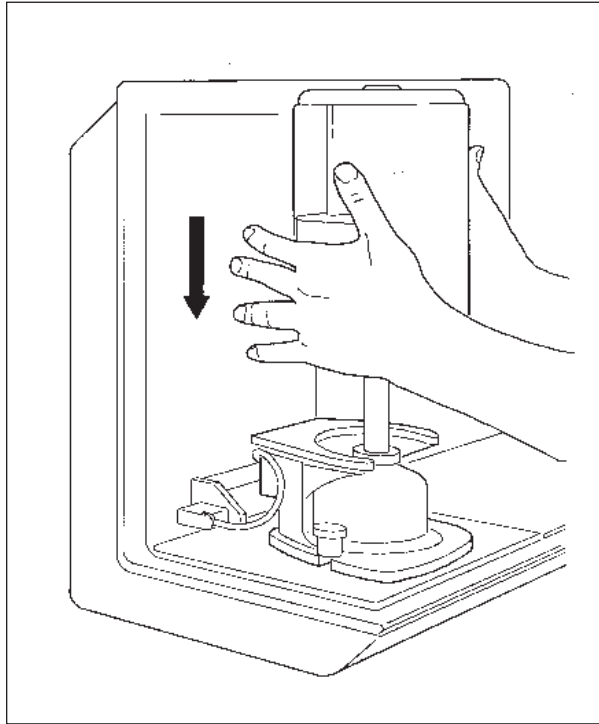

Figure 2.18
3. Slowly lower the furnace over the furnace tube, and using the guide pins on the furnace base, seat the furnace on the furnace base (see Figure 2.18).